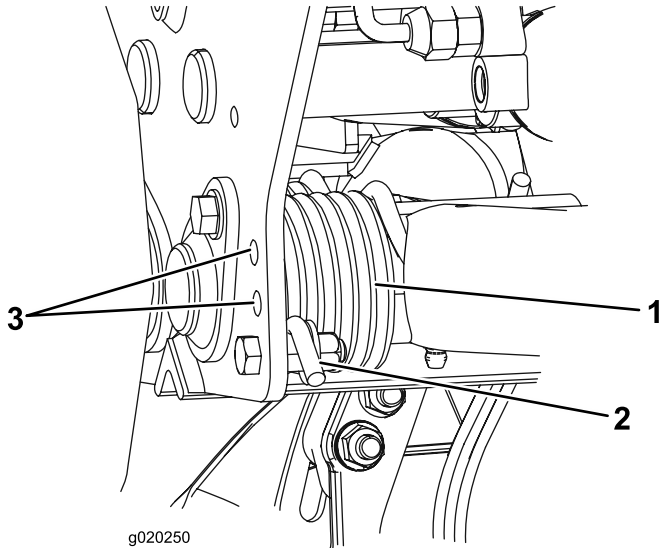

Figure 33
2. Insert a tube or similar object onto the long spring end to relieve the spring tension during the adjustment (Figure 33).
3. While relieving the spring tension, remove the bolt and locknut securing the spring actuator to the bracket (Figure 33).